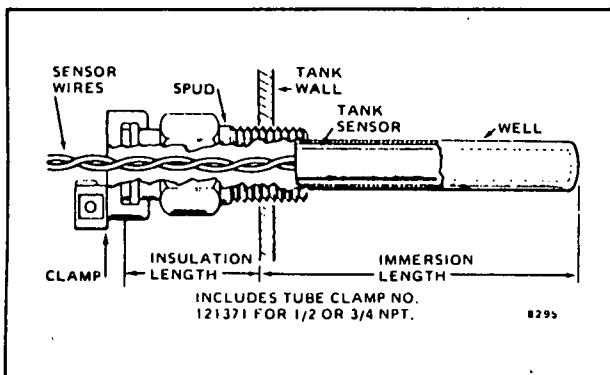

FIG. 1—TANK SENSOR INSERTED IN IMMERSION WELL.
**Immersion Well**—for mounting sensor in storage tank. See immersion well table and Fig. 1.
1. Drain system fluid to a point below the sensor fitting. (Refer to Fig. 1.)
1/2 inch conduit in the bottom of the controller case (Fig. 1).